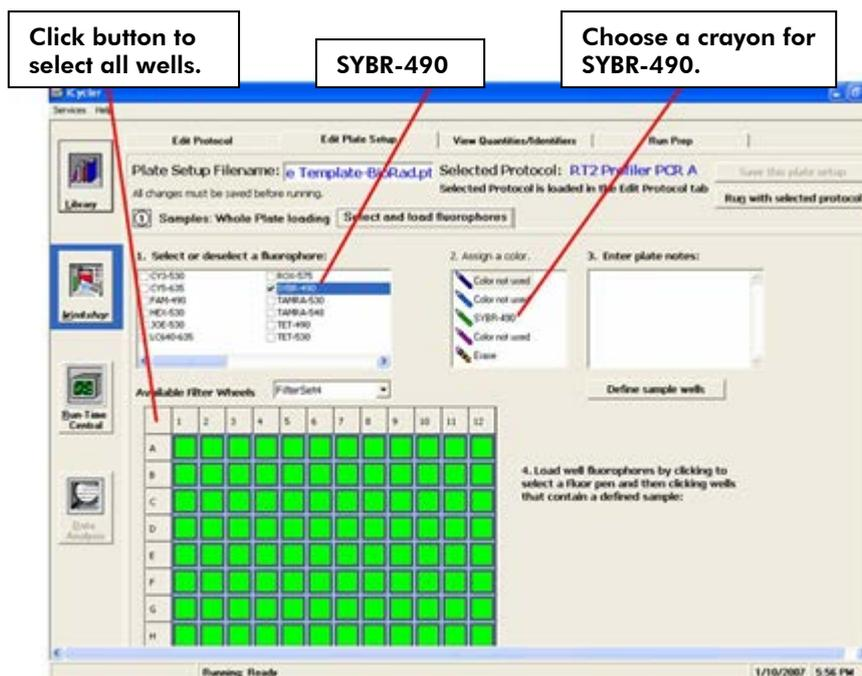

Figure 3. Plate setup — fluorophore loading.
- When finished loading samples, click on **Select and Load Fluorophores** (See Figure 3). Select **SYBR-490** as the fluorophore by clicking the box next to the fluorophore in the **Select or Deselect a Fluorophore** box. Assign a color for SYBR-490 by clicking on one of the crayons. With the SYBR-490 crayon selected, load fluorophore to all wells by clicking the top left corner of the plate to select all wells at once. Enter **RT2Profiler PCR Array Plate Setup Template** as the new filename in the **Plate Setup Filename** box and click **Save this plate setup** to save the file as a *.pts file.